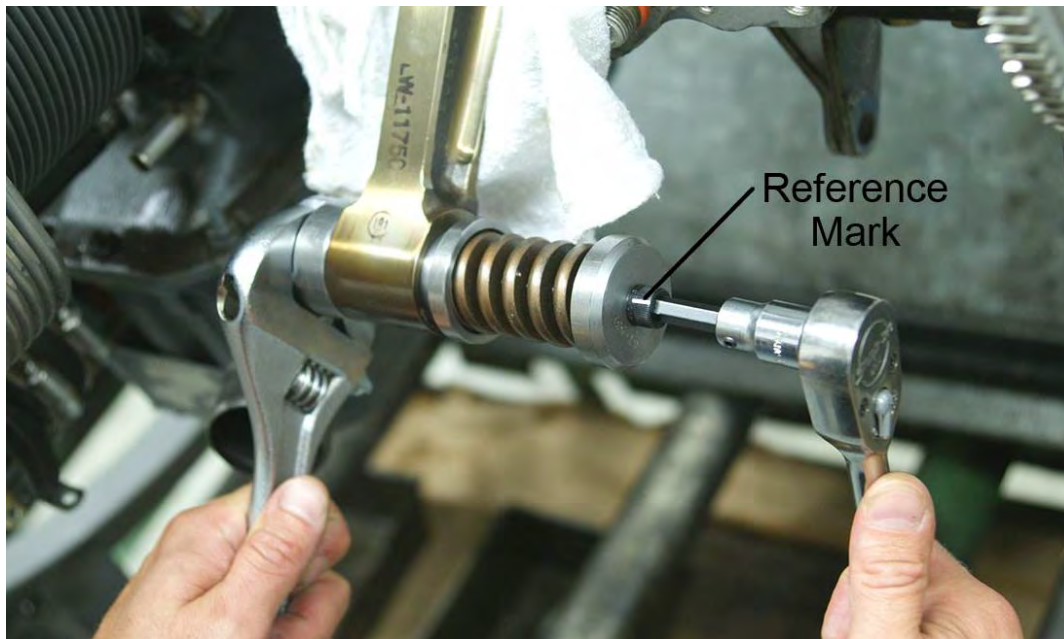

Figure 19
8. Use a wrench to hold the bottom section of ST-531 and turn the bolt with the ratchet and 1/4-inch Allen socket clockwise six full turns (Figure 19). **Do not exceed 6 turns.**